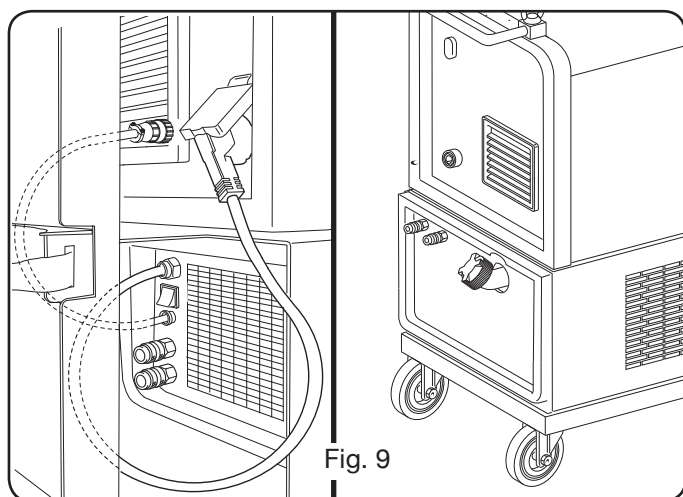

Fig. 9
3.5 ASSEMBLY OF THE COOLING UNIT (ART. 1683 - OPTIONAL FOR ART. 306-308-316 AND 316) (Fig 9)